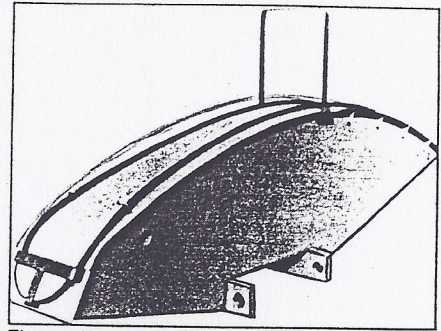

Figure 20
- c. Attach wire line bail to horsehead. See illustration in Figure 20.